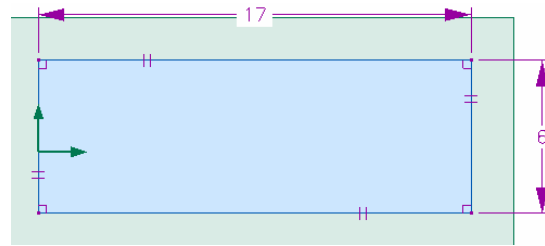

Figure 1. Base outline dimensions.
3. Draw a rectangle 17" x 6" according to figure 1.